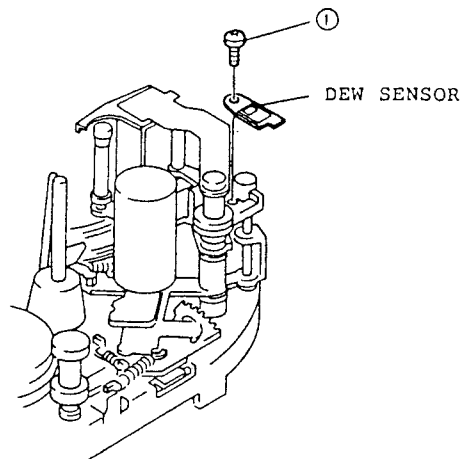

Fig. 2-61
1. Remove one (1) screw holding the dew sensor. (See Fig. 2-61)